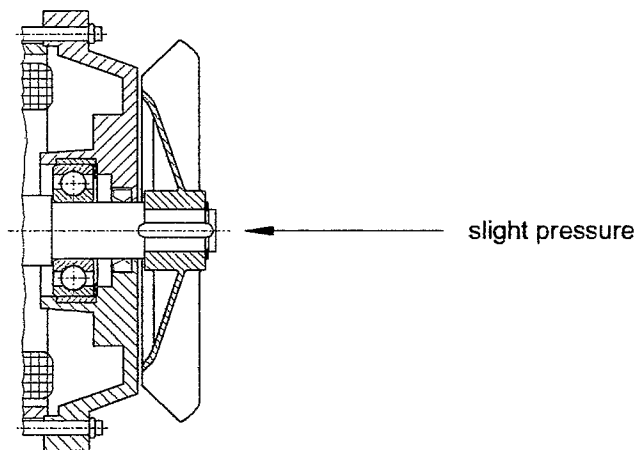

Figure 6.11.2-4: Pressure on motor shaft
7) Ease the overstress on the bearing by lightly pressing the shaft end by hand, see figure 6.11.2-4 "Pressure on motor shaft".